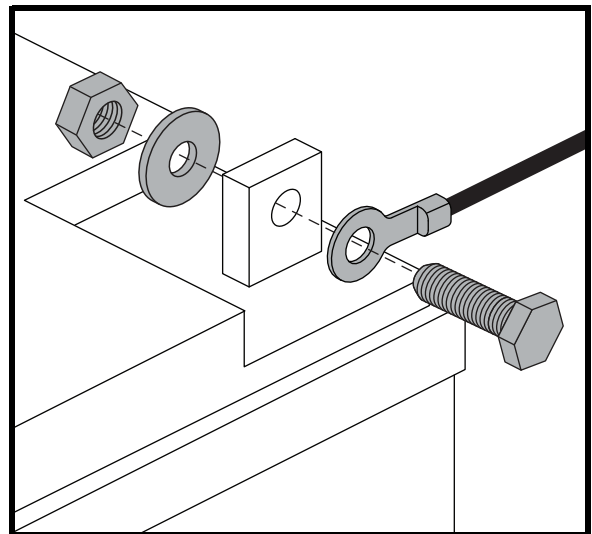

Figure 13. Battery Terminal Hardware
4. Disconnect the battery cables from the battery terminals by sliding back the terminal boots and unscrewing the nut from the bolt. **See figure 13.**